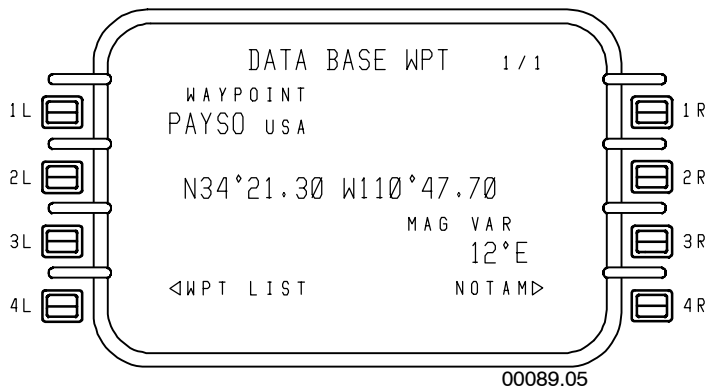

Figure 6-31
- **DATA BASE WPT 1/1**– Figure 6-31 displays the following data for intersections.